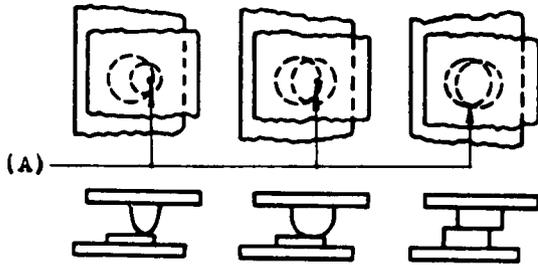

Fig. 9 - Contact Alignment
2.10 Contact Alignment - Fig. 9 (A) - The point of contact shall fall wholly within the boundary of the opposing contact except for contacts having the same diameter, in which case their centers shall not be out of alignment more than 25% of the diameter of the contact points. Gauge by eye.